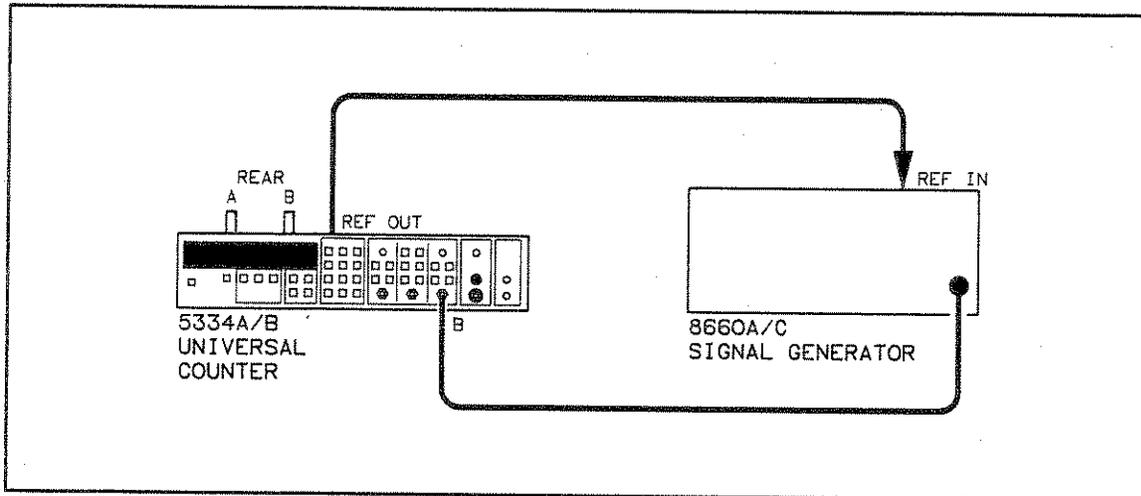

Figure 4-7. Channel B Frequency and Sensitivity Setup for Option 060
4. Connect the signal generator to the HP 5334A/B front panel Input B as shown in *Figure 4-7*.